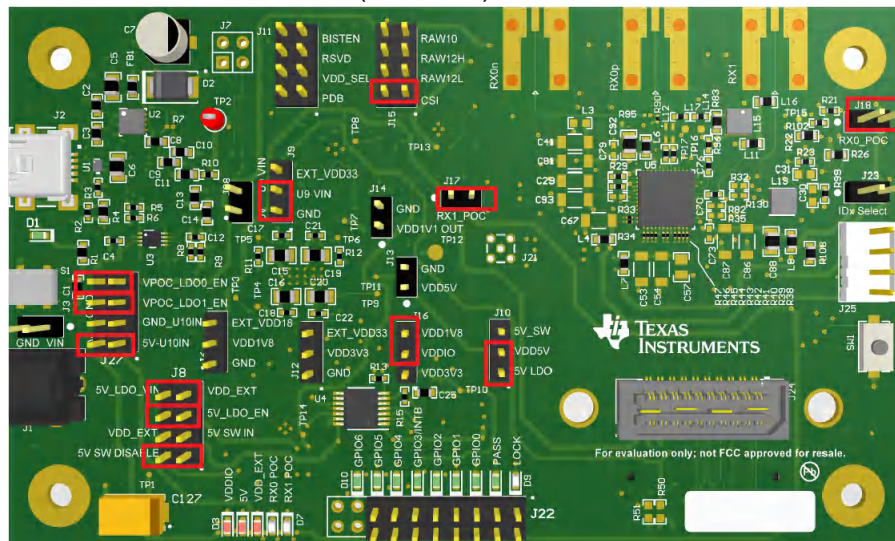

Figure 2-4. DS90UB954-Q1EVM (or variant) With Jumpers Highlighted
2. Ensure jumpers and switches for DS90UB954-Q1EVM (or variant) are configured like shown in Figure 2-4. See the DS90UB954-Q1EVM User's Guide (SNLU223) for further details.